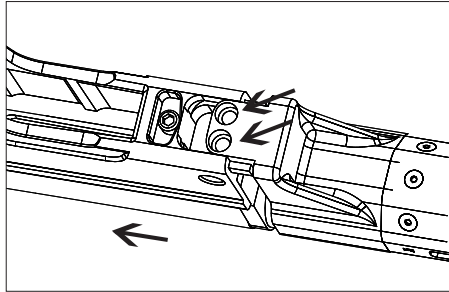

Figure 48 - Hand Guard Lug Screw Holes
4. The hand guard attachment screw holes on the Center Chassis Section can be identified as the pair of 3/16" screw holes positioned side by side in front of the magazine well. They match up with corresponding holes in the AR-08 hand guard lug. (Fig 48)